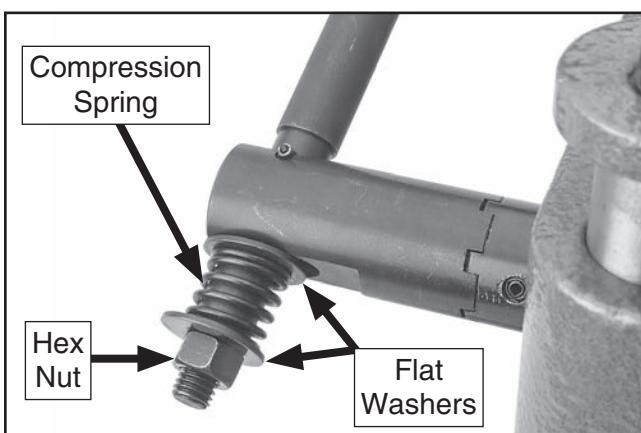

Figure 7. Handle lever fully installed.
2. Slide threaded end of hand lever through opening in handle clutch (see **Figure 7**), and secure with 19mm fender washer, compression spring, 13mm fender washer, and M10-1.5 hex nut.